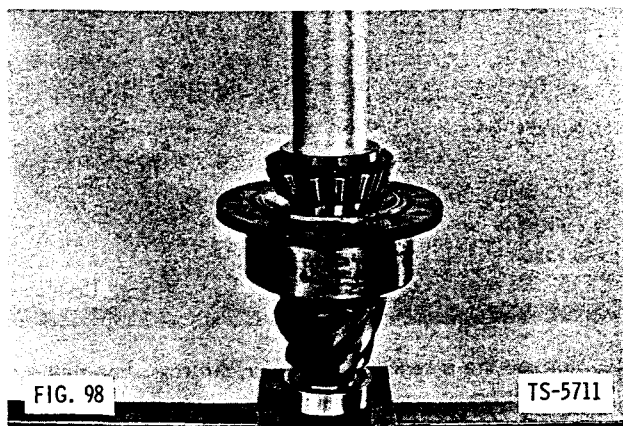
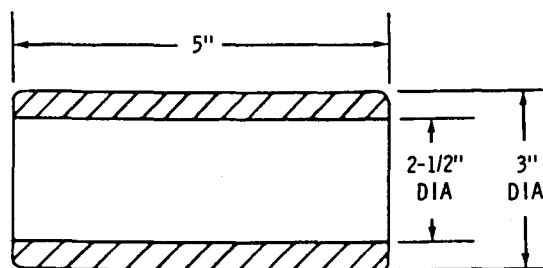

FIG. 98
FIG. 99
7. Position pinion bearing cage assembly on pinion shaft. Position outer pinion bearing cone on pinion shaft and press into place using steel tubing for driver (Fig. 98). Driver dimensions are given in Fig. 99.